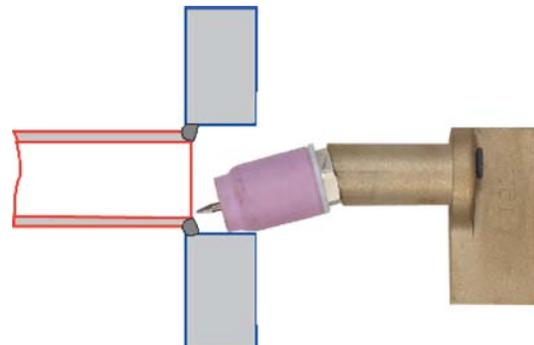

Fig.3.21 - Tube at back of plate
- Tube at back of plate (Fig.3.21).